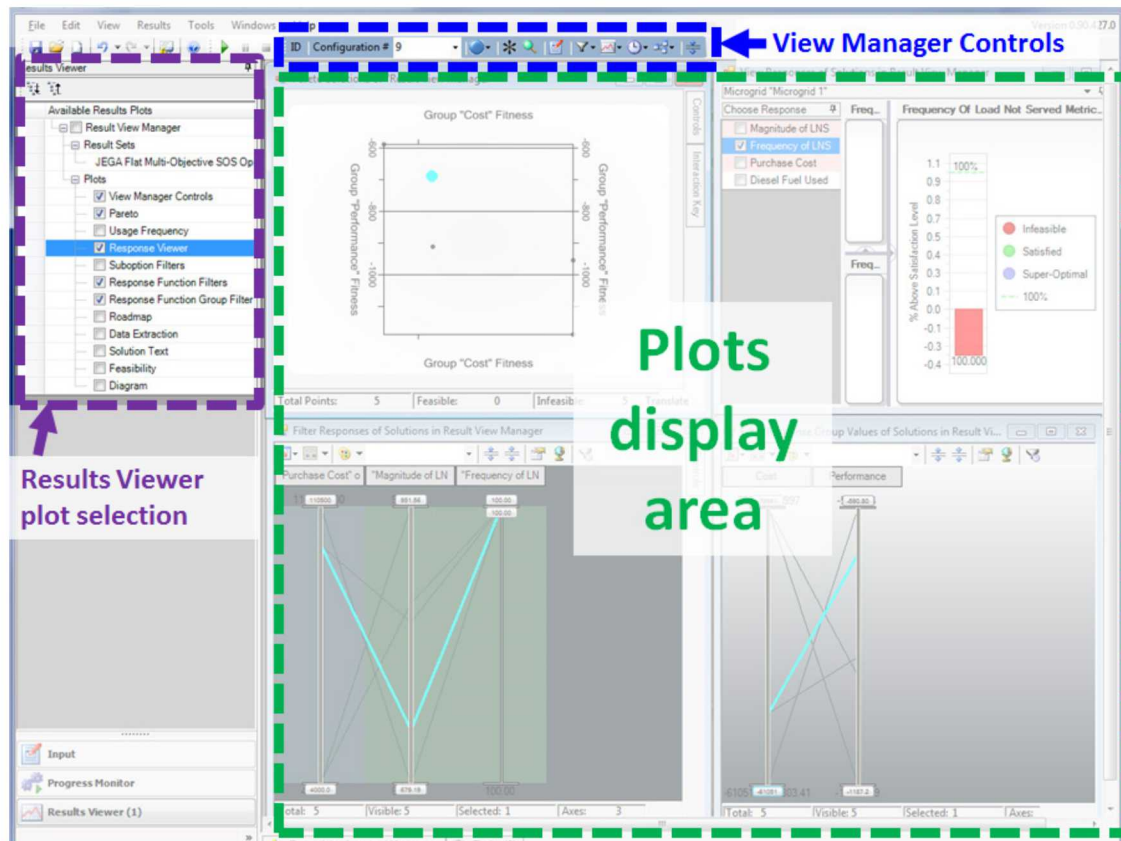

Figure 78. Results Viewer page overview.
- **Plot selection** menu (highlighted in purple in Figure 78) allows you to select which plots to display.
- **View Manager Controls** (highlighted in blue in Figure 78) toolbar allows you to see the currently selected configuration and filters being applied to the plots. This toolbar can be displayed/hidden via the plot selection menu. This is not applicable for MSC analyses.
- **Plots display area** (highlighted in green Figure 78) can display multiple plots at once. Plot windows can be resized and moved.
All plots are interactive and are linked. Selecting a configuration or filtering on one plot will cause the same configuration and filters to apply to all other plots. Since multiple plots can be open at the same time, this feature becomes useful in ensuring all plots are displaying information about the same data set. In Figure 78, you will see a bright blue dot or line in three of the plots, which represent the same configuration.